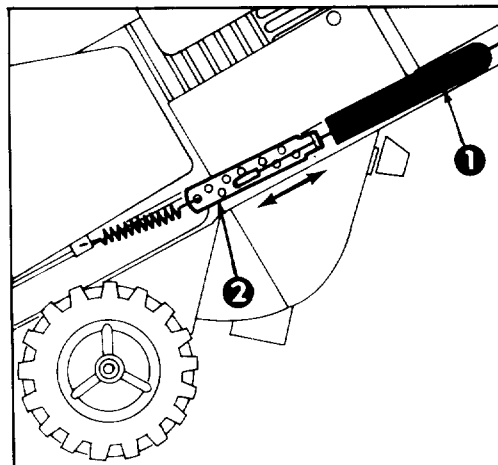

Figure 10
3. ADJUST CABLE-(Fig. 10) — Unhook upper cable end from hole in control bar bracket. Slide spring cover up cable to expose cable adjuster. Unhook cable end from cable adjuster and reposition in a higher or lower hole on adjuster as required to attain proper gap of 1/16-1/8". Reinstall upper cable end into rear hole (hole with arrow) in control bar bracket. Slide spring cover over cable adjuster and recheck adjustment.